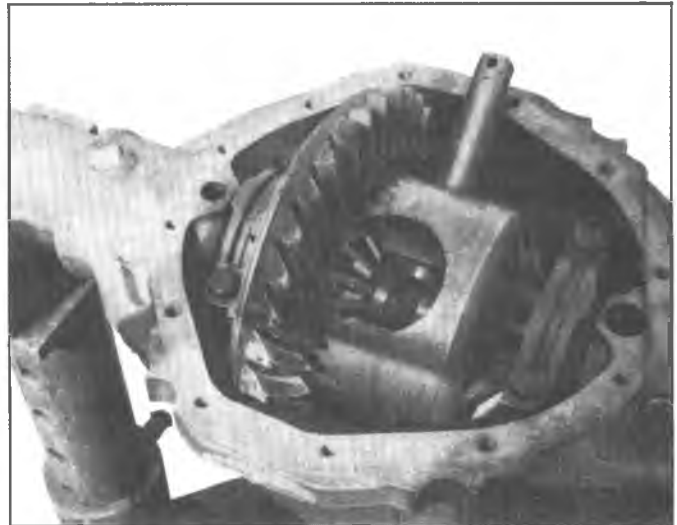

Fig. 10—Positioning Case For Best Clearance
4. Carefully withdraw the pinion shaft part-way out, as shown in figure 10. Rotate the case until the shaft touches the housing.